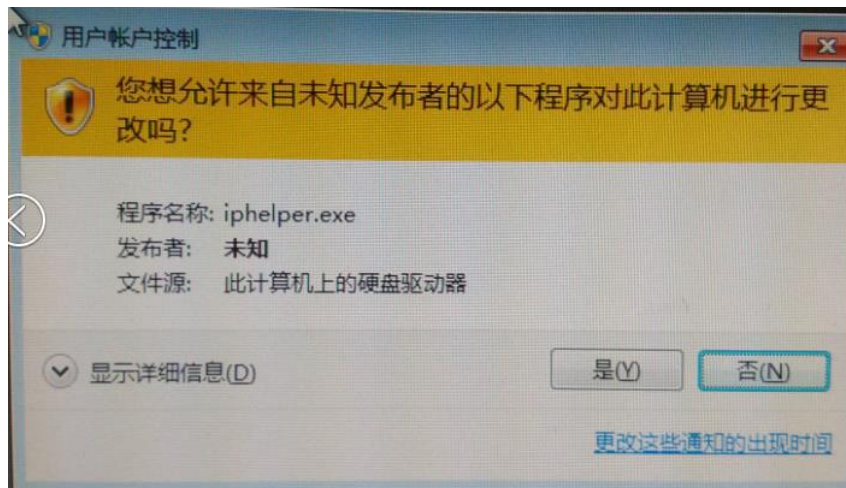

Fig. 4.9-18 The "User account control" dialog
(6) If the "User account control" dialog pops up after you clicking the "Connect" button, as shown in figure 4.9-18, the program name is "IPHelper", please click the "yes" button to make sure the transmission procedure to continue.